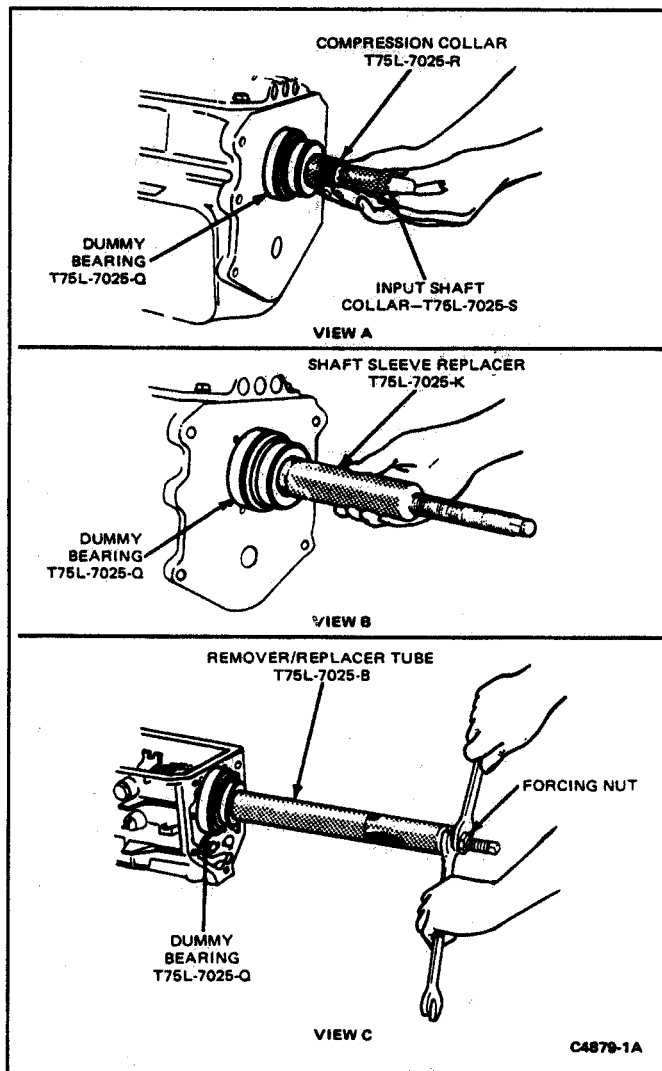

FIG. 17 Installing Input Shaft Bearing
17. Install the input shaft bearing using the tools T75L-7025-B, K, Q, R, S as shown in Fig. 17 and install the snap ring. Use the thickest select fit snap rings which will fit on the bearing.